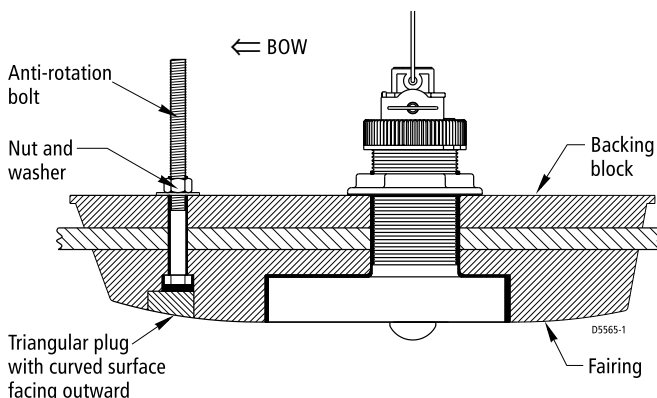

Figure 2-8: Using a Fairing and Backing Block
5. Apply a 1/16" (2mm) thick layer of marine sealant to the anti-rotation bolt, 1/4" (6mm) higher than the combined thickness of the fairing, hull, backing block, washer, and nut. This will ensure that there is marine sealant on the threads to seal the hull and hold the nut securely in place (see *Figure 2-8*).